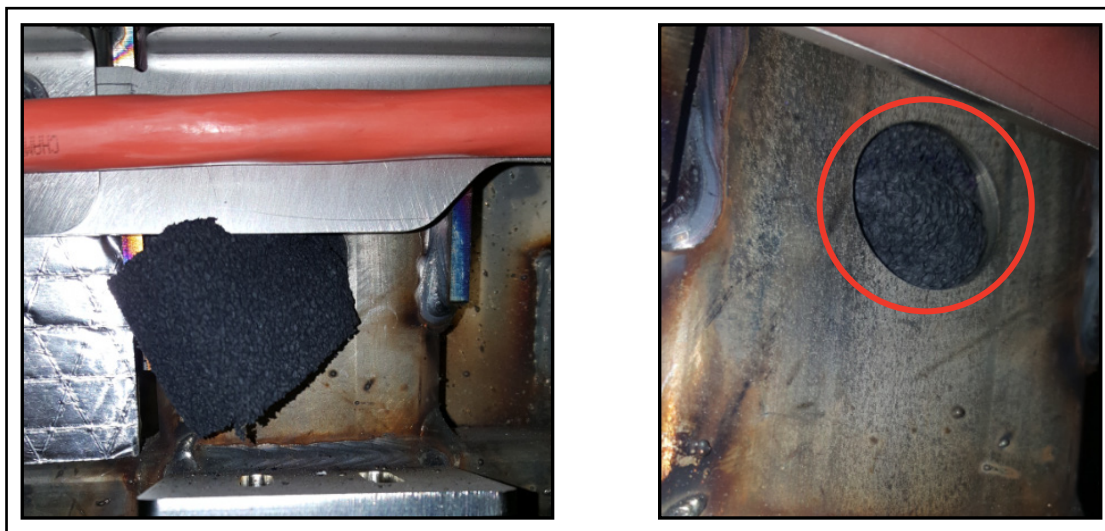

Figure 9 - Vertical Tube - HVAC Drain
- 1.14. To block the small hole, the small foam piece can be split in two along its joint to reduce its size and fit easier into the hole (see Figure 9).